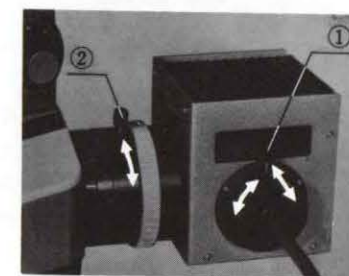

Fig. 3
- (1) Align the dot of the light source selector knob (at the back of the microscope base) to position "H" (for halogen lamp).
- (2) Swing the objective 10x in position.
- (3) Set the high/low magnification selector lever to position "L".
- (4) Fully open the field iris diaphragm and aperture iris diaphragm.
- (5) Turn on the main switch of the microscope base and adjust light intensity.
- (6) Coarse focus with the coarse adjustment knobs.
- (7) Center the condenser.
- (8) Remove the eyepiece from the observation tube, and look into the tube.
- (9) Looking at the image of the bulb filament at the back focal plane of the objective, center it by loosening the socket clamping knob ①, sliding the socket back and forth, or rotating it clockwise or counter-clockwise. (Fig. 3)
- (10) After completing the centration, re-insert the eyepiece into the observation tube.
- (11) Turn the collector lens focusing knob ② to the right or to the left until illumination irregularities are minimized, if any. (Fig. 3)
- (12) Insert the frosted glass into the filter insertion slot. (See page 6)